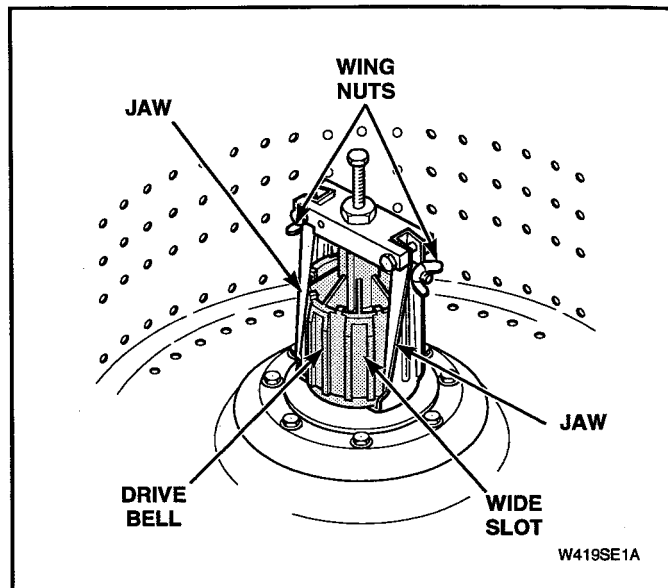

Figure 5-10
- Place tool over drive bell, making sure indent on jaws line up with wide slots on drive bell. See Figure 5-10.
- Place lip of each jaw under bottom edge of drive bell, making sure indent on jaws line up with wide slots on drive bell. Tighten wing nuts on tool to hold jaws firmly against drive bell. See Figure 5-10.